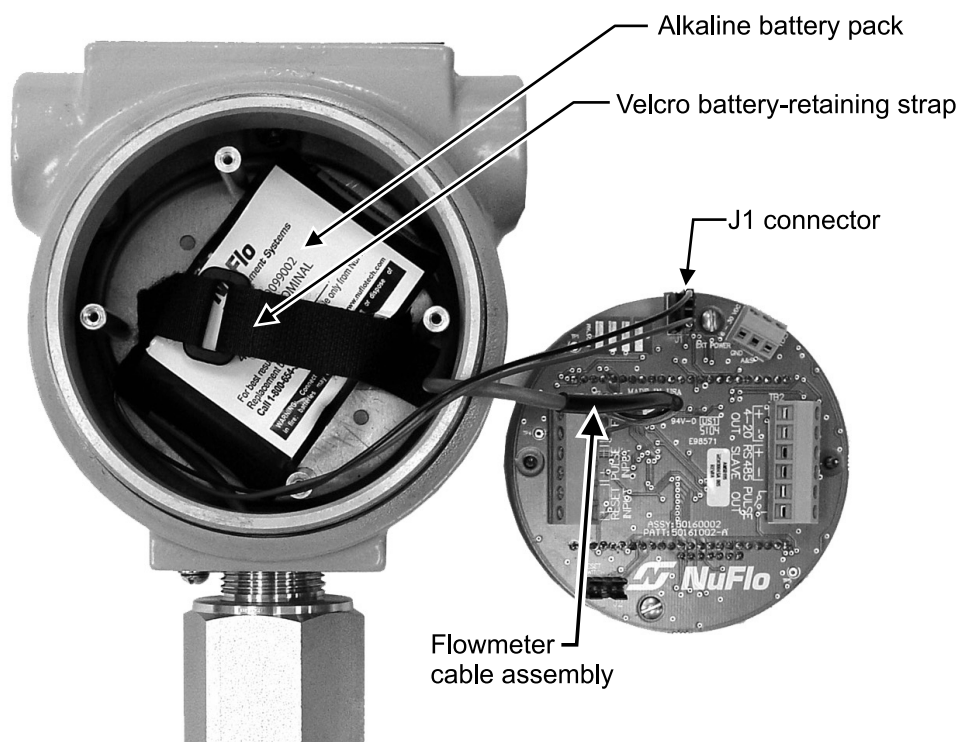

Figure 6.4—Removal/replacement of alkaline battery pack
4. Loosen the Velcro strap, disconnect it from the J1 connector on the circuit assembly, and remove the battery from the enclosure (Figure 6.4).
5. Install the new shrink-wrapped battery pack in the same position as the original battery pack as shown in Figure 6.4, page 94 and secure the Velcro strap to hold the pack tightly in place.